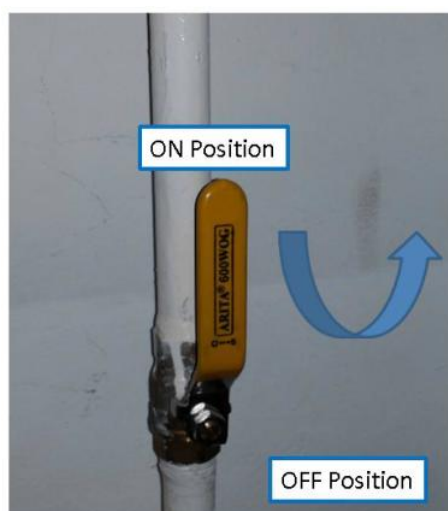

Figure 15 Air Pressure Input Port Plug
7. Turn on Air Pressure Input Plug as below Figure 15.